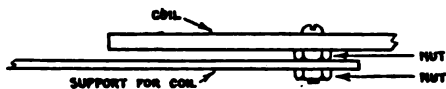

Fig. 7C
Now secure the disc with the fewest turns, or the primary coil, to the end (A) of this strip by means of a short $\frac{1}{8}$ -inch bolt. First slip the bolt through the hole in the strip, then screw a nut on tightly, then place the coil over the bolt and screw a second nut on; then file the bolt end down flush with the surface of the second nut as shown in Figure 7C. Secure this strip bracket that holds the coil to the